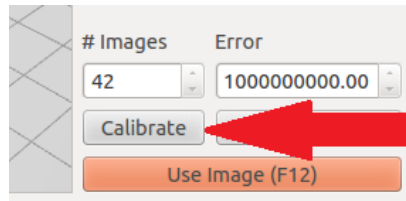

Figure 22
- Press *Calibrate* (Figure 22)